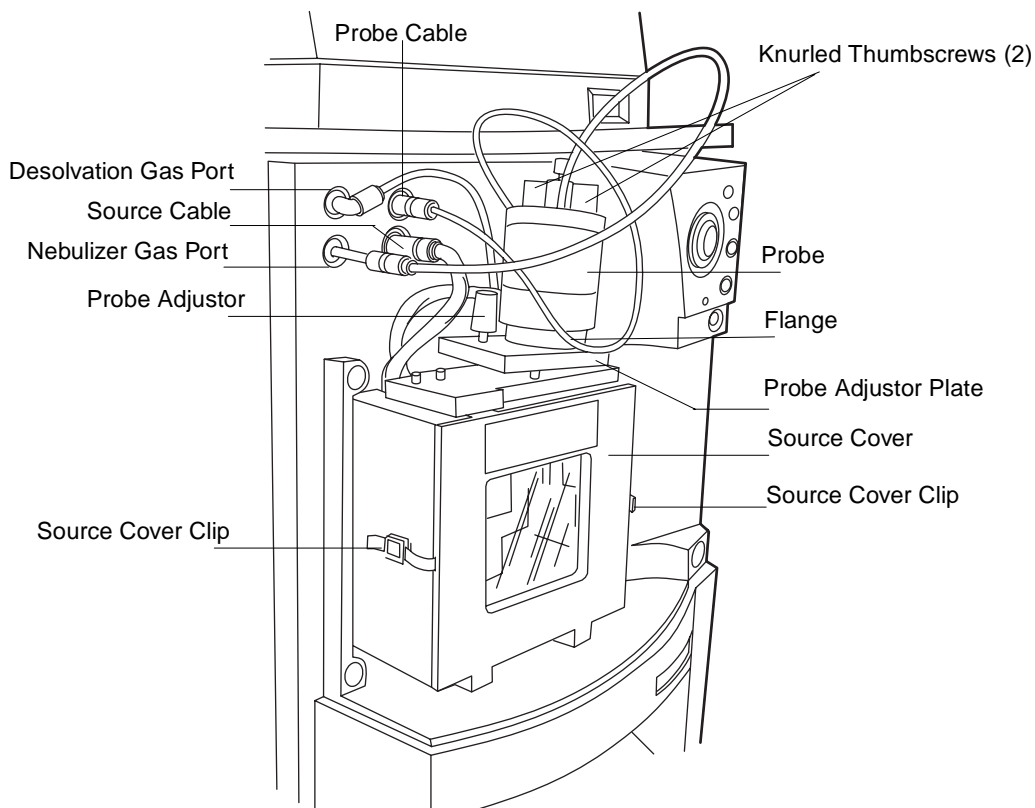

Figure 2-8 ESI Probe in Situ
Refer to Figure 2-8 for this procedure.
10. Turn the probe adjustor (see Figure 2-8) in one direction or the other to optimize peak intensities.